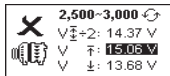

Fig.42
6. If either maximum or minimum charging volts were not within the voltage range limits, the result will highlight as described example below (Fig.42&43). The analyser will prompt the user to check the alternator system for the fault.